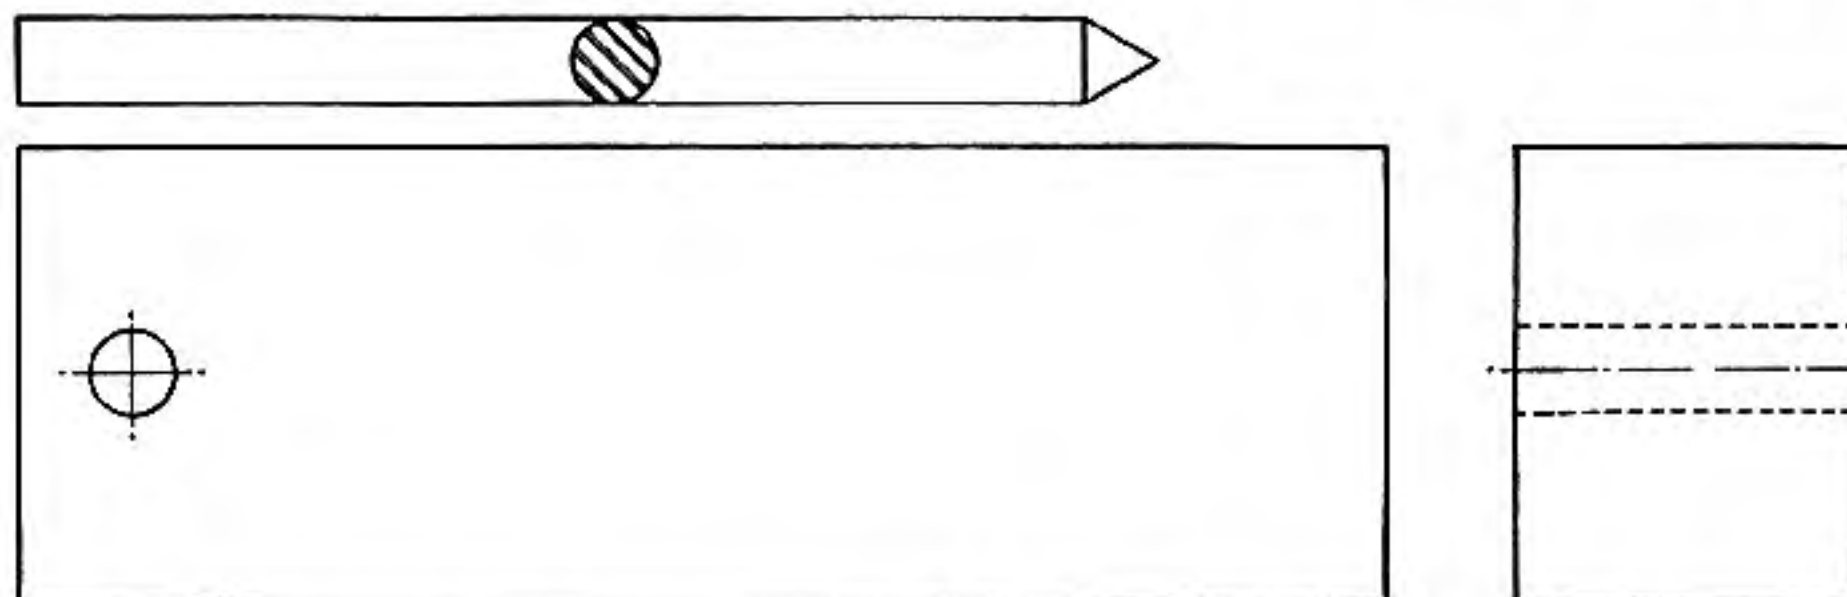

Fig. 78
**Drill-press Centering Device** — Figure 78 illustrates this centering device, which is clamped
After the centering device is set up in the drill press as shown in Figure 78, with the  $\frac{3}{8}$ -inch rod placed in the hole in an upright position, the guard screw-hole may be drilled. Set the trigger guard in place and use a  $\frac{1}{4}$ -inch drill in the rear guard screw-hole as a guide. Place the center in the mark made by the center punch and bring the drill down into the guard screw-hole. This method aligns the hole perfectly. Now remove the guard and open the hole already drilled with a  $2\frac{1}{64}$ -inch drill, still holding the stock in position on the center in the fixture. Drill up to the center. Remove the drill and continue drilling until there is only a thin web left, then insert the guard-screw bushing. The rear guard-screw bushing is very essential; it not only separates the receiver and the guard, but it also gives the correct distance between the receiver and the guard. I always exercise great care in inserting this correctly, so that the two holes will be in perfect alinement and the bushing firm in the stock.